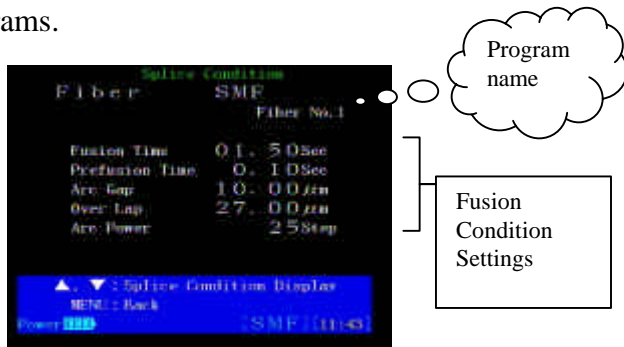

Figure 40. Splice Condition Screen
1. Referring to Figure 40, from the FUNCTION MODE menu choose ARC PAUSE and press "SELECT".
1. Referring to Figure 40, choose "Splice Condition" from the FUNCTION MODE menu screen and press "SELECT".